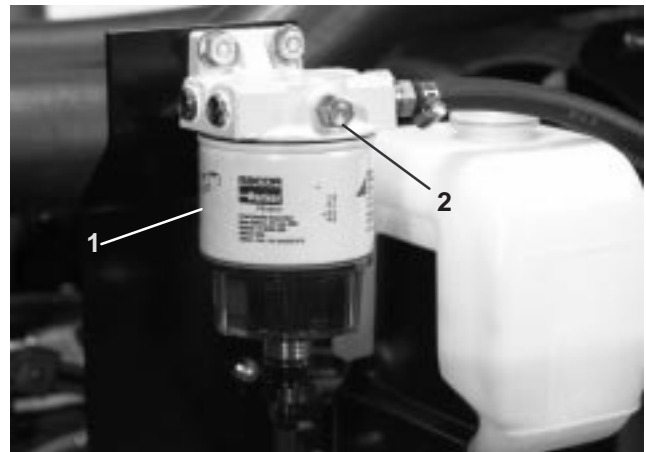

Figure 26
3. Open vent plug on the fuel filter/water separator (Fig. 26).